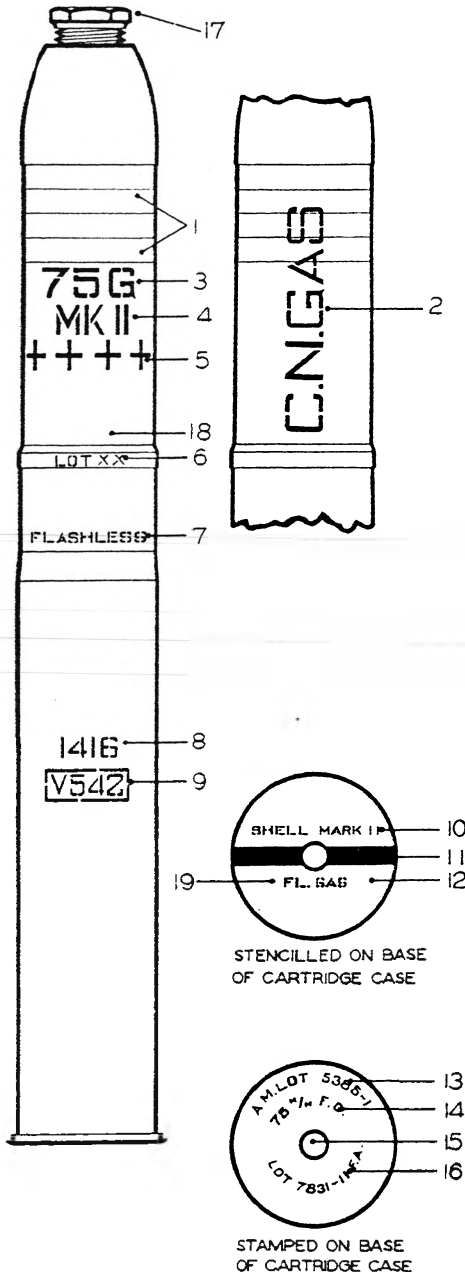

FIG. 6.—Marking of 75-mm. chemical shell Mark II fixed ammunition for field gun. (New system)
(3) The new marking system is shown in Figure 6. In this system, for the purpose of marking, all fillers are divided into two classes, nonpersistent and persistent. Nonpersistent fillers are indicated by one green band and persistent fillers by two green bands, as follows: